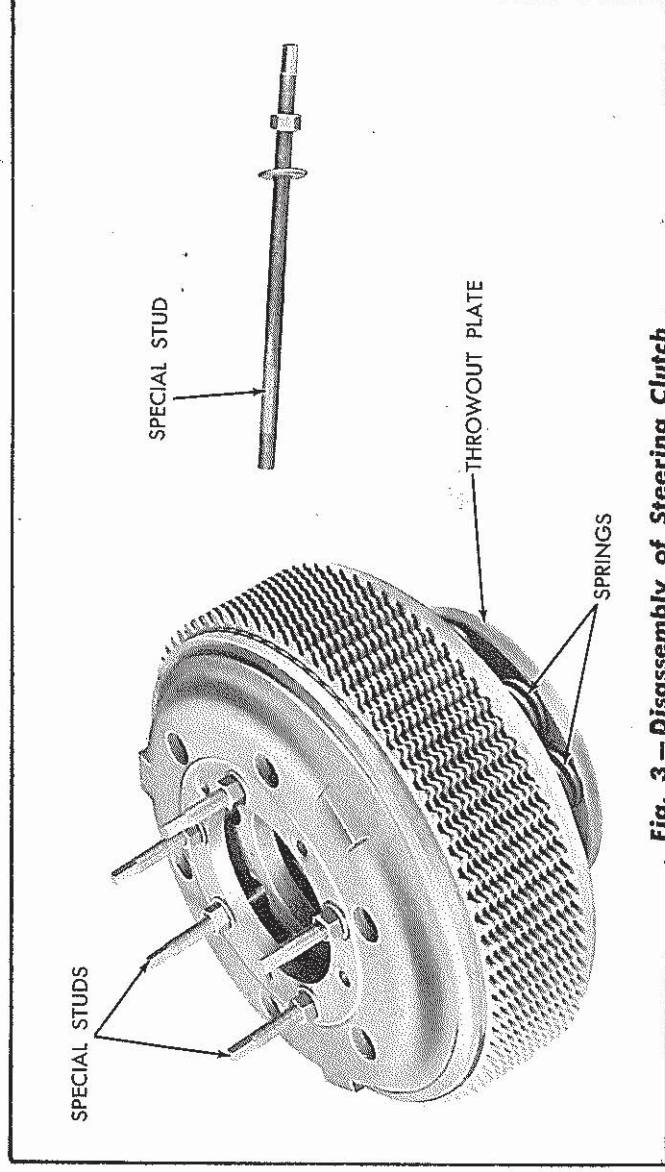

Fig. 3 — Disassembly of Steering Clutch
should be $\frac{1}{2}$ " diameter by $11\frac{3}{8}$ " long, having one end threaded $\frac{1}{2}$ " N.F. for a distance of approximately 1". The other end should be machined square for a wrench hold and threaded $\frac{1}{2}$ " N.F. for a distance of approximately $8\frac{1}{2}$ " (refer to Fig. 3).
4. Install the five studs with the short threaded end into the throwout plate, followed by flat washers and hex nuts. Turn the nuts down against the pressure plate (refer to Fig. 3).